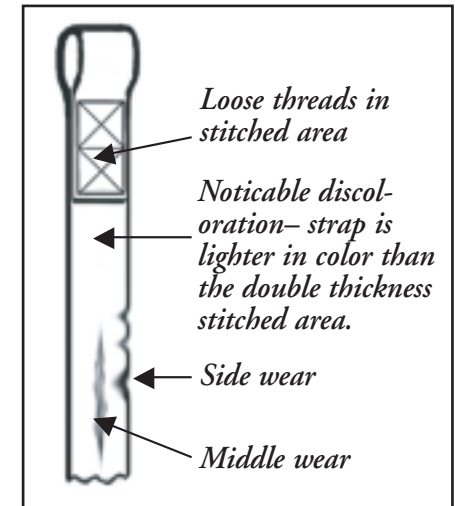

Figure 9
2. Look for any of the signs of wear described in (Figure 9).